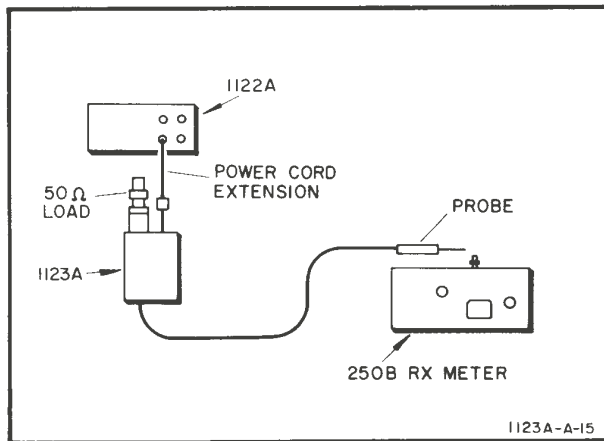

Figure 5-5. Input Capacitance Set-up
- a. Connect the equipment as shown in Figure 5-5.